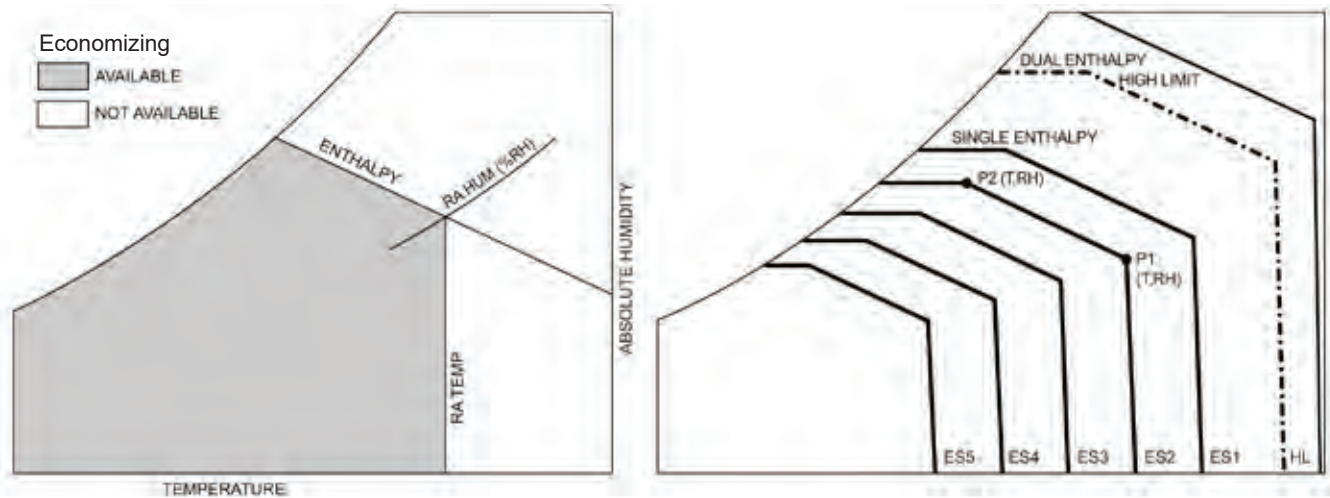
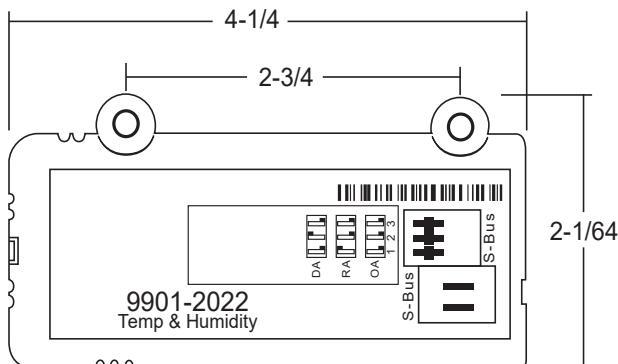

Figure 32 – Enthalpy Curve Boundaries
Figure 33 - 9901-2022 (C7400S) Dimensional, connection and switching information
When using the 9901-2022 (Honeywell C7400S) enthalpy sensor (See Figure 33) for outside air changeover, the existing 9901-2021 (Honeywell C7250) dry bulb sensor must be removed if applicable. When the enthalpy sensor's OA temperature, enthalpy and dew point are below the respective setpoints, the outside air can be used for free-cooling. When any of these is above the setpoint, free-cooling will not be available. Figure 32 shows the enthalpy boundaries in the W7220 Jade controller. There are (5) enthalpy
In addition to using the 9901-2022 (Honeywell C7400S) sensor (See Figure 33) for a single enthalpy sensor, it can also be used as a differential return enthalpy or dry bulb sensor. Figure 32 shows the dual enthalpy boundaries in the W7220 Jade controller. With dual enthalpy The HIGH LIMIT boundary is ES1 when there are no stages of mechanical cooling energized and HL (high limit) when a compressor stage is energized. Table 7 shows the High Limit Curves for each setting. *Important: to use the 9901-2022 sensor for differential return air, the dipswitches on the sensor must be set to ON-OFF-OFF. See Table 8.*